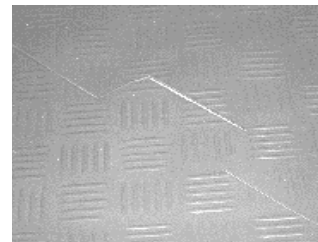

Fig 2
- Position the next sheet of ComforTech to match the "Checker" pattern. It is important that the top sheet be aligned with respect to the bottom to acquire the proper match of the "Checker" pattern after the seam is cut. To determine the required width, cut a notch in the selvage edge every 6 feet as illustrated (**Fig. 2**) to provide visual alignment and matching of the patterns.